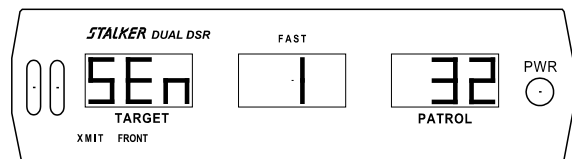

Fig 14
**SEn 1 20** (Fig 14). During VSS operation this function is not required and thus is not available. During VSS operation, when the **PS 5/20** key is pressed, SP will be momentarily displayed.